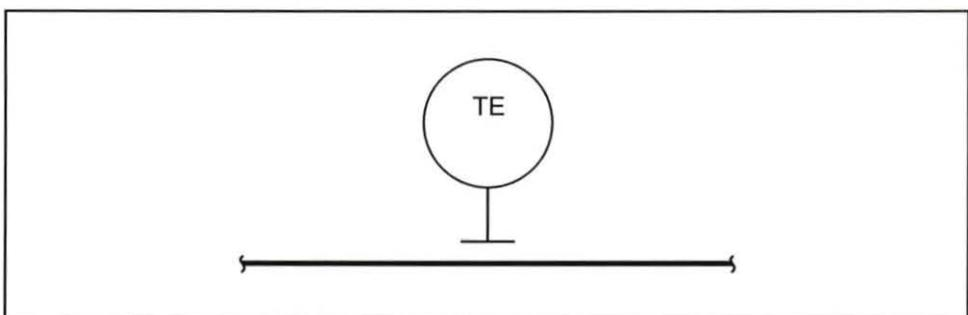

Figure 68. Sensing Element Symbol
4. Determine which type of temperature sensing element symbol is shown in figure 68.